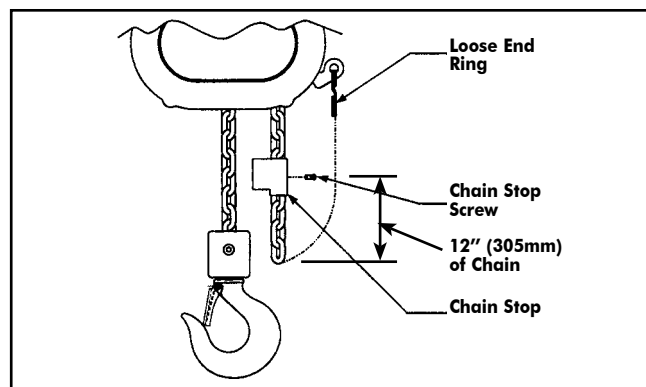

figure 13b
4. Jog the UP push button while pulling on the free end of wire until the chain comes out of the hoist. Remove the wire and attach the chain stop as shown in Figure 13B. On units with chain container, place chain stop and loose end of chain in chain container. Attach chain container to chain guide.